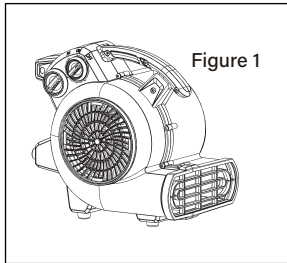

Figure 1
1. Use the down position for applications such as drying wet floors, shampooed carpets, etc. To use this position simply place the unit on its base (Figure1).